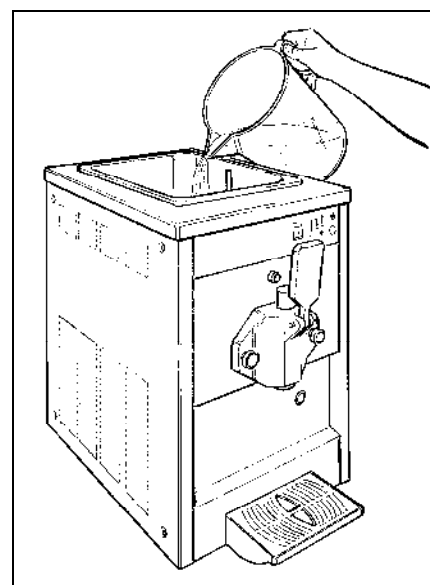

Fig. 6
- Pour the mix obtained into the upper tank (fig.6) and wait until it has drained into the freezing cylinder considering that the cylinder capacity is almost 8 litres while the upper tank one is almost 10.